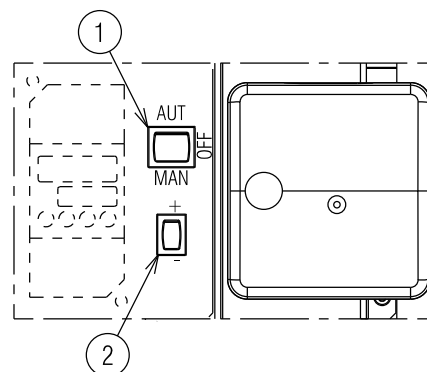
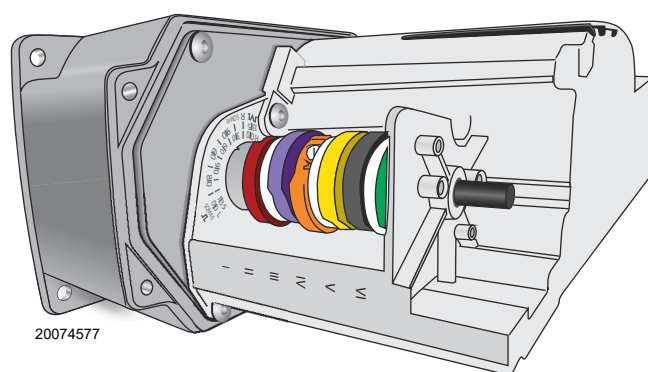

Fig. 25
Fig. 26
Put the selector 1)(Fig. 25) in position “MAN”.
- put the switch 1) of Fig. 25 to “OFF” and wait for the control box carries out the switching off phase;
The servomotor (Fig. 26) provides simultaneous adjustment for the air damper, by means of the adjustable profile cam and the gas butterfly valve. Completes a rotation of 90° in 30 s. After the adjustment made in the factory to its 6 cams to allow an initial ignition. Check that they are as shown below. In the event of a modification, follow what is described below for each cam:
The air is adjusted by varying the angle of cam III) (Fig. 29) and by using the selector 2)(Fig. 25). To adjust the cam of the servomotor, see Fig. 29 A).
In the above instructions we left the burner running at the MIN output. Now press the "increase output" button 2)(Fig. 25 on page 22), and keep it pressed until the servomotor has opened the air damper and the gas butterfly valve.
The air is adjusted by varying the angle of cam I) (Fig. 25 on page 22) and by using the selector 2)(Fig. 25 on page 22). To adjust the cam of the servomotor, see Fig. 29 A).
Press button 2)(Fig. 25 on page 22) "Diminishing output" and keep it pressed until the servomotor regains (Fig. 29 B) the adjustment made in the factory: See page 23 and as a consequence adjusting the air damper 5) and the gas butterfly valve 4) (Fig. 28 on page 24).
The regulation of the air is carried out using the angle of the cam III) of the servomotor (Fig. 26 on page 23) and by using the selector 2)(Fig. 25 on page 22). To adjust the cam of the servomotor, see Fig. 29 A).
After adjusting the maximum and minimum output of the burner, carry out air adjustment on higher intermediate positions of the servomotor. The passage from one position to the next one is obtained by pressing the button 2) on the symbol (+) or (-) (Fig. 25 on page 22). For a brief period press the button 2)(Fig. 25 on page 22) "Output increase" so that the servomotor rotates by about 20°, see servomotor graduated index Fig. 29 B) and the air damper graduated index 5) (Fig. 28 on page 24).